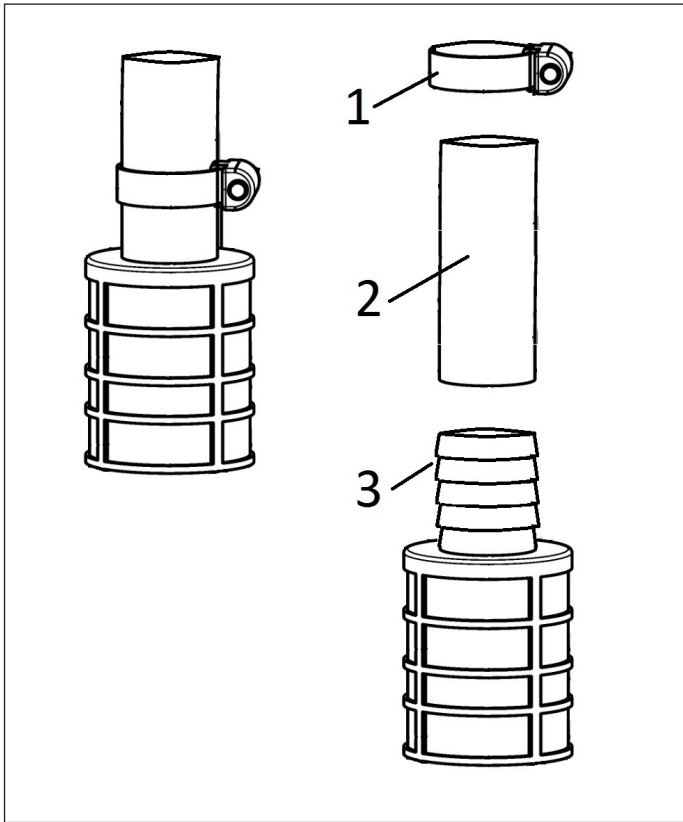

Fig. 8: Suction strainer FA 016.0303
When changing the suction strainer proceed as follows (see fig. 8):
1. Release the hose clamp (1) and pull the suction strainer (3) from the suction hose (2).
2. Clean the suction strainer (3) with cleaning solvent or diesel fuel or replace it if damaged (Order No. FA 016.0303) and dispose of the used part in accordance with the environmental requirements, waste code: OIL FILTER 16 01 07.
3. Attach the suction strainer (3) to the suction hose (2) according to Fig. 8 and secure it with the hose clamp (1).